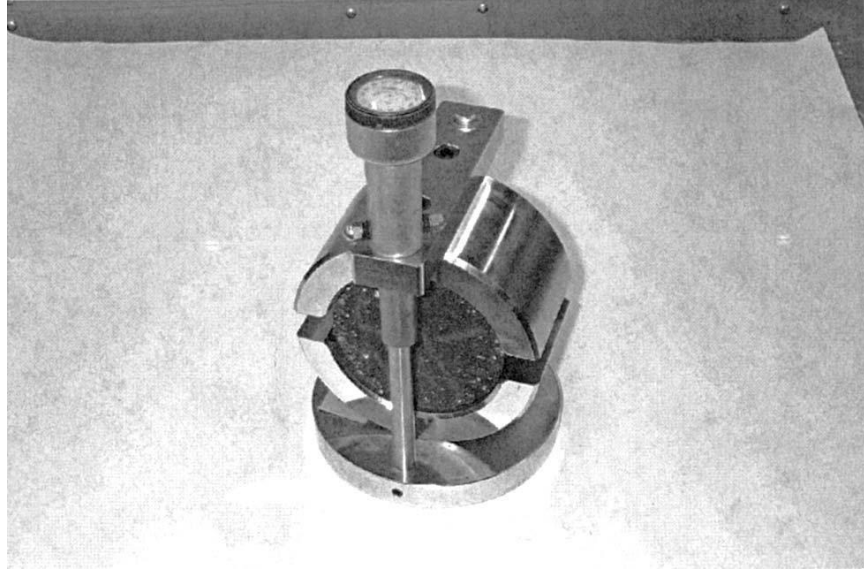

FIG. 4 Example of Flowmeter (Used in Method A)
5.4 *Flowmeter*—The Marshall flowmeter consists of a guide sleeve and a gage (Fig. 4). The activating pin of the gage shall slide inside the guide sleeve with minimal friction and the guide sleeve shall slide freely over the guide post (see Fig. 4) of the breaking head. These points of frictional resistance shall be checked before tests. Graduations of the flowmeter gage shall be increments of 0.01 in. (0.25 mm) or finer. Instead of a flowmeter, other devices such as an indicator dial or linear variable differential transducer (LVDT) connected to a load-deformation recorder or computer may be used. These alternate devices should be capable of indicating or displaying flow (deformation) to the required sensitivity. These devices must be designed to measure and record the same relative movement between the top of the guide-post and the upper breaking head.